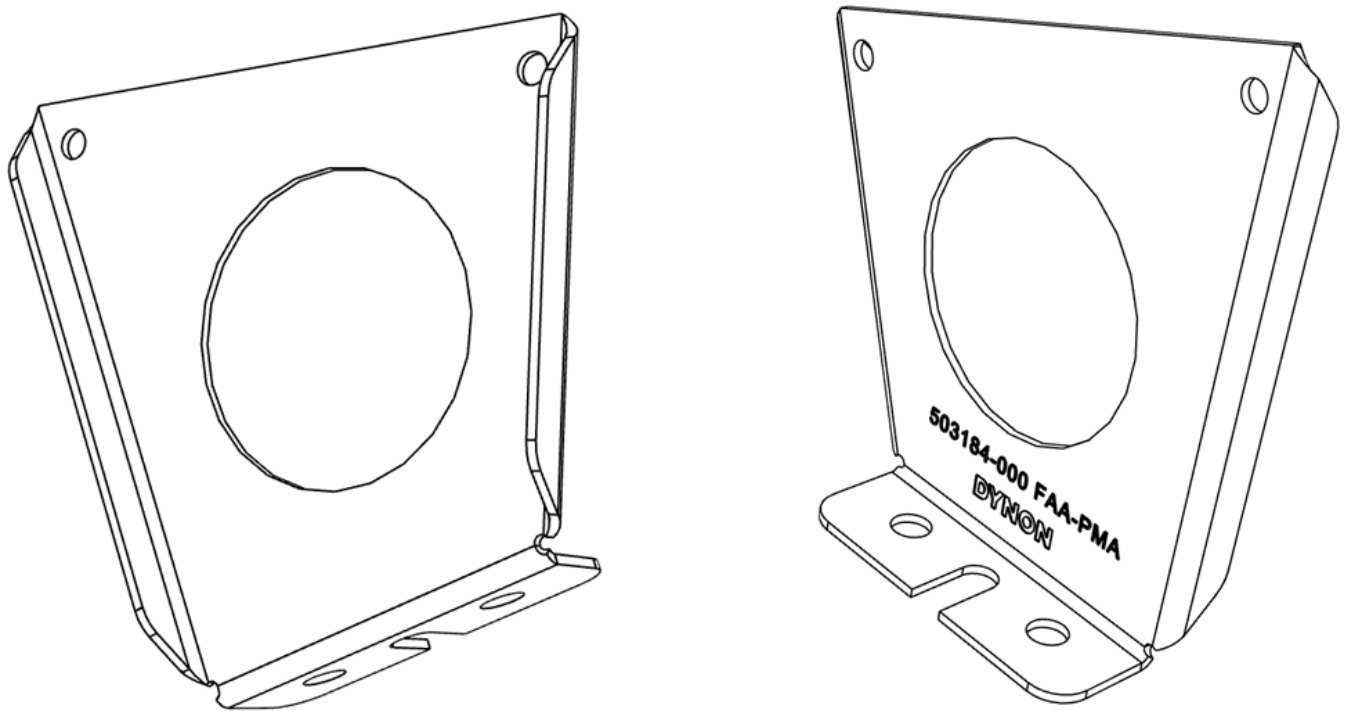
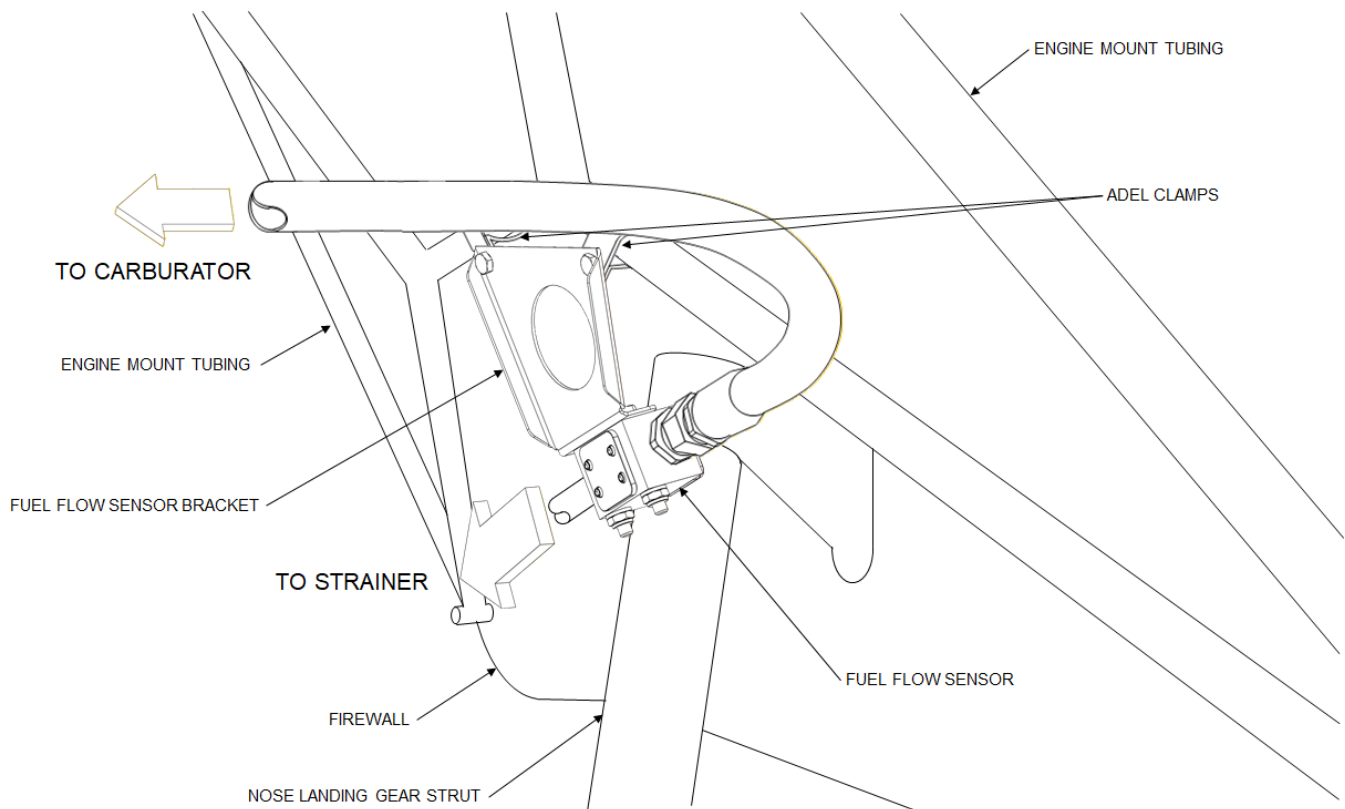

Figure 1: Cessna 172 Fuel Flow Sensor Mounting Bracket, 503184-000
Figure 2: Cessna 172 Fuel Flow Sensor Installation
1. Attach mounting bracket (see Figure 1) to lower left engine mount support tube, which is below the upper tube cluster weldment (see Figure 2). Use an Adel clamp appropriate for tubing size and AN/MS hardware.
2. Attach mounting bracket (see Figure 1) to horizontal engine mount cross support tube, which is inboard of the tube cluster weldment (see Figure 2). Use an Adel clamp appropriate for tubing size and AN/MS hardware.
- The inlet end is oriented toward fuel strainer, and the outlet port is oriented toward carburetor (see Figure 2).
4. Secure sensor to mounting bracket (see Figure 2) using AN/MS hardware.